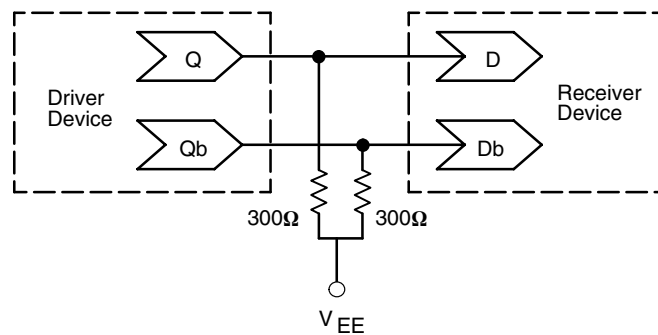

Figure 1. Termination for Output Driver and Device Evaluation of This Device
- The setup time is the minimum time that \overline{EN} must be asserted prior to the next transition of IN/ \overline{IN} to prevent an output response greater than ± 75 mV to that IN/ \overline{IN} transition (see Figure 1).